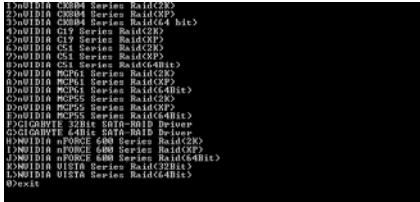
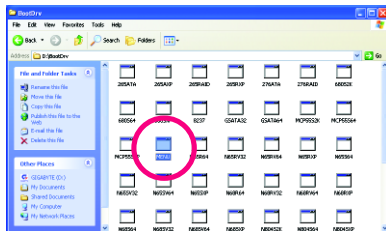

Figure 2
Figure 3
Step 2: When the controller menu (Figure 2) appears, remove the startup disk and insert the blank formatted disk. Select the controller driver by pressing the corresponding letter from the menu. In the example in Figure 2, the **NVIDIA MCP61 DRIVER** series are for the NVIDIA® nForce 520LE(Geforce 6100/nForce 430) chipset. For example, to install Windows XP (32-bit) onto the RAID drives, press <A> to select **A)nVIDIA MCP61 Series Raid(XP)**. The **B)nVIDIA MCP61 Series Raid(64Bit)** is for Windows XP 64-bit and **9)nVIDIA MCP61 Series Raid(2K)** for Windows 2000. Your system will then automatically zip and transfer this driver file to the floppy disk. Press <0> to exit when finished.
(Note) For users without a startup disk: Use an alternative system and insert the motherboard driver disk. From your optical drive folder, double click the **MENU.exe** file in the **BootDrv** folder (Figure 3). A command prompt window will open similar to that in Figure 2.